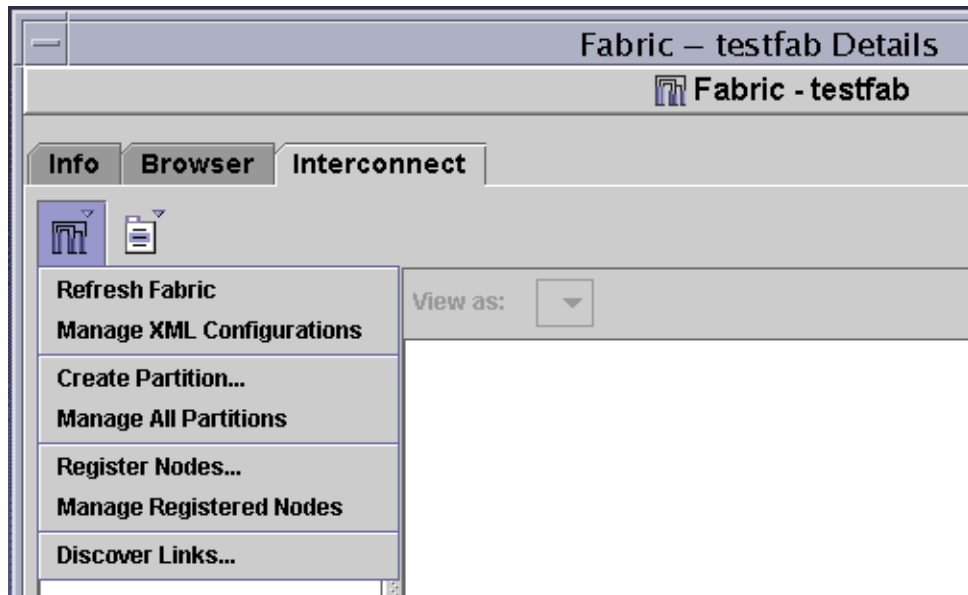

FIGURE 6-5 Fabric Menu Showing Create Partition Menu Item
1. **Open the Fabric Details window, pull down the Fabric menu, and select Create Partition. See FIGURE 6-5 for an illustration of this menu.**